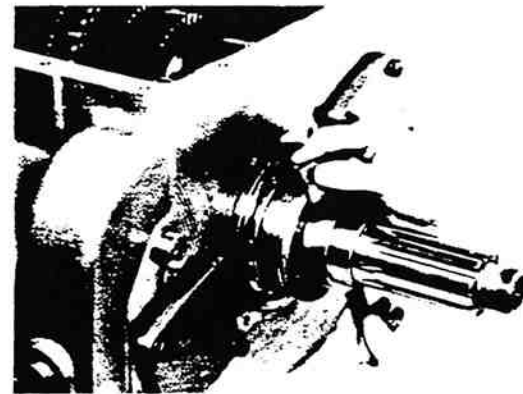

Figure 13-24. Removing Keys.
5. Remove the two flat keys from bores in output shaft. These keys maintain the position of the mainshaft in relation to output shaft (figure 13-24).